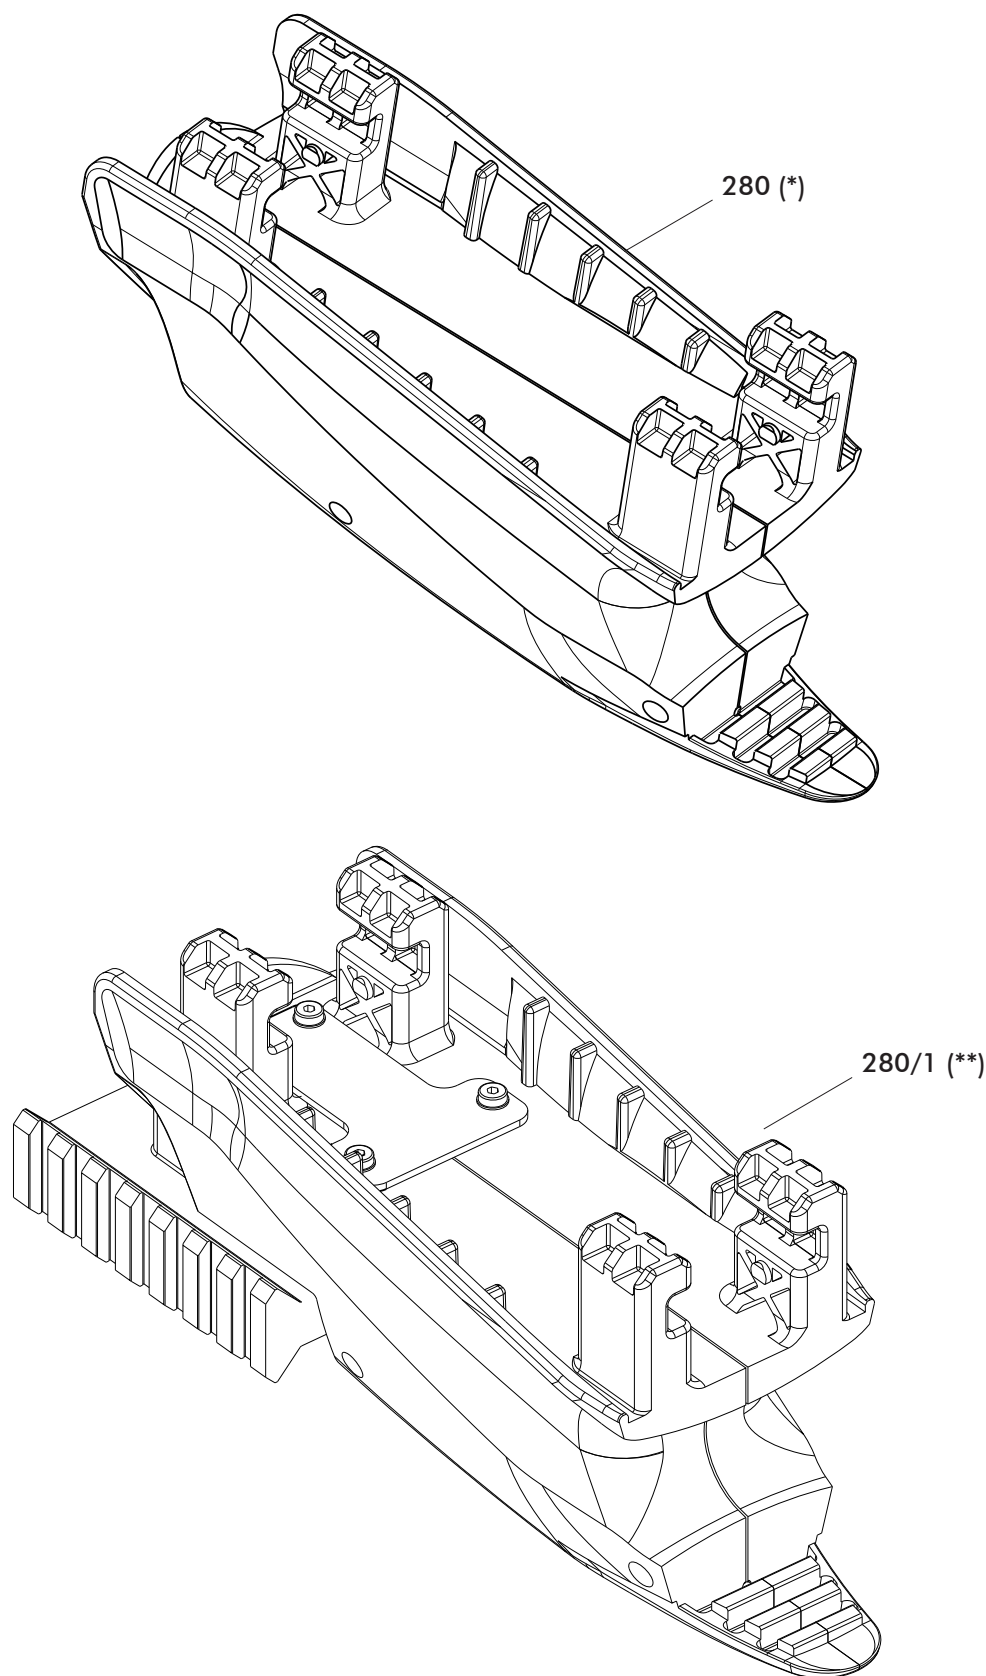

Fig. 2.d - Handguard (280) and handguard tri-rail (280/1)
**2.2. PARTS LISTS (CONTINUED)****2.2.3. Handguard and handguard tri-rail****(a) List of parts (Fig. 2.d)**